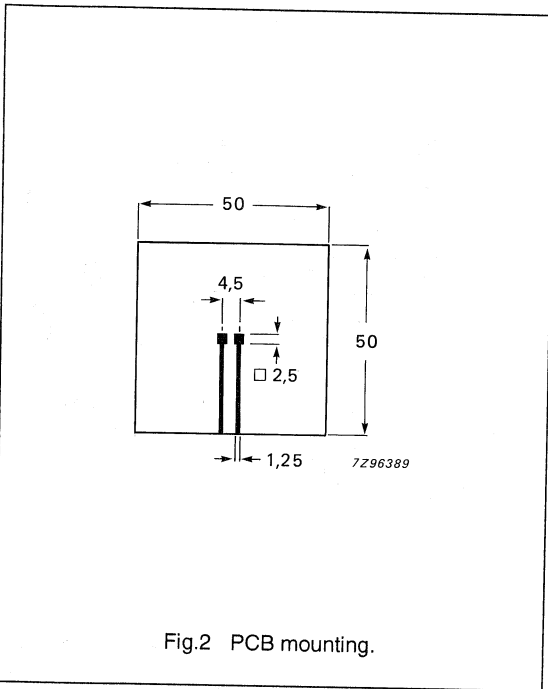

Fig.2 PCB mounting.
1. Device mounted on a 1.5 mm thick epoxy-glass PCB; Cu-thickness 40  $\mu\text{m}$  (see Fig.2).